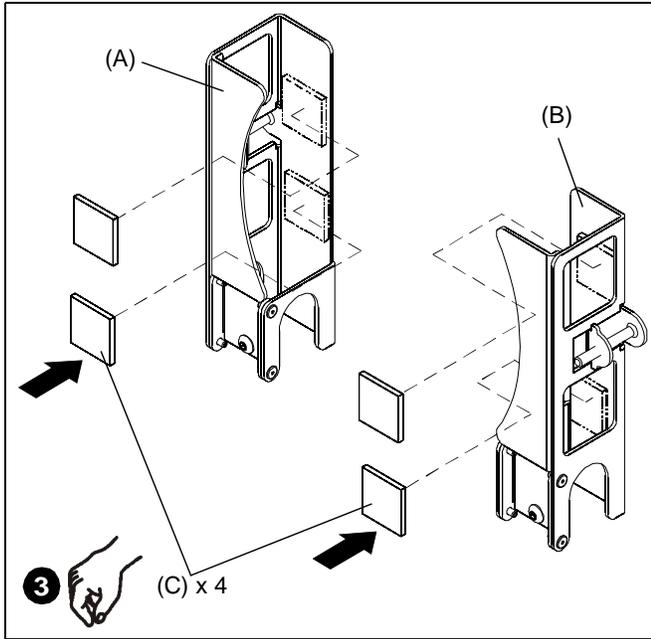

Figure 1
1. Put Velcro tabs (C) together so there are 4 squares of Velcro.
3. Attach Velcro squares to the left and right brackets (A and B). (See Figure 1)